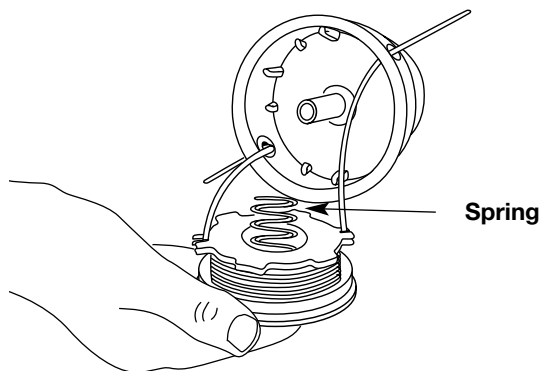

Figure 26
13. Insert the ends of the line through the eyelets in the outer spool and place inner reel with spring inside the outer spool. See Figure 26. Push the inner reel and outer spool together. While holding the inner reel and outer spool together, grasp the ends and pull firmly to release the line from the holding slots in the spool.
5. Insert the ends of the line through the eyelets in the outer spool. See Figure 26.